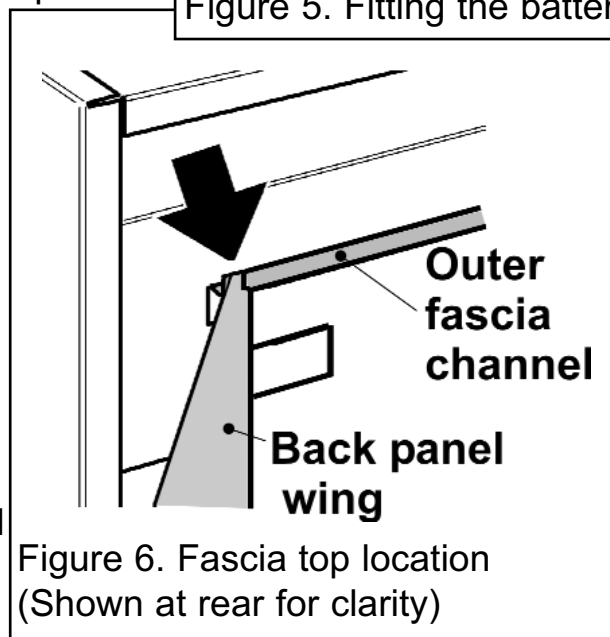

Figure 6. Fascia top location (Shown at rear for clarity)
6. Place the fascia over the engine. Make sure that the top rear of the fascia locates fully into the 'U' shaped notch of the engine back panel (See figure 6).